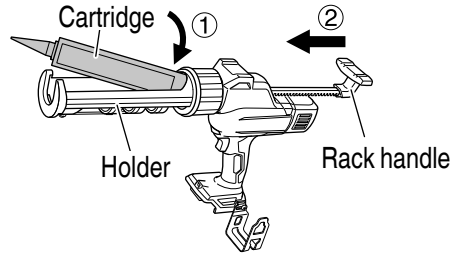

Fig. 19
- (4) Load the cartridge into the holder. (Fig. 19)